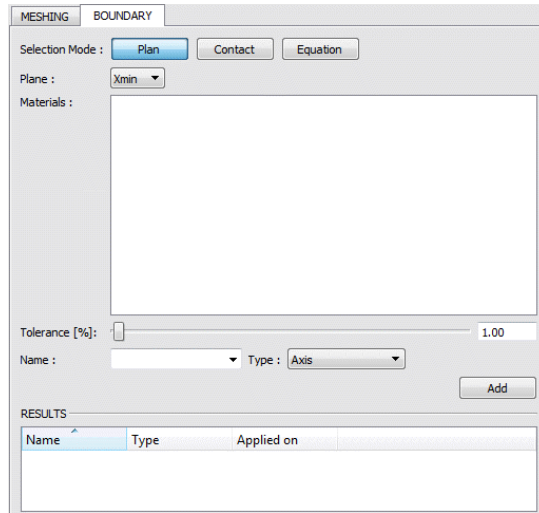

Figure 11.3: The Boundary Tab
- **A Boundary tab:** This is where boundary conditions are assigned to the mesh. Various tools let you select the elements (triangles) which are part of a given boundary condition group (given name and ID). This tab is available only if the selected file format allows exporting boundary conditions (Figure 11.3).